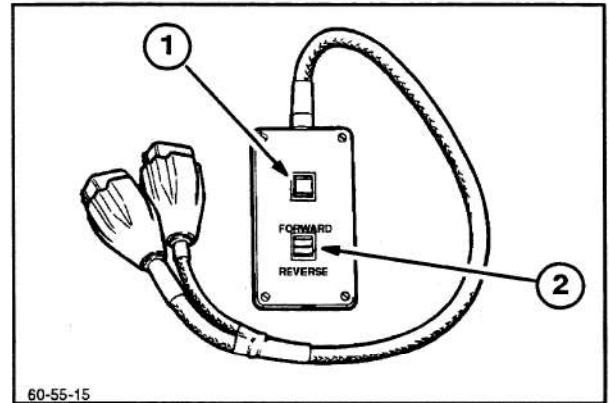
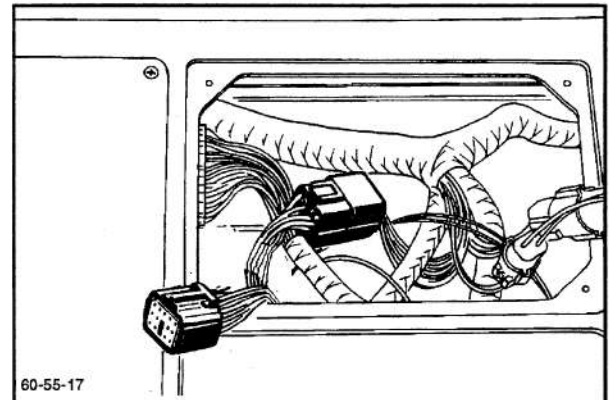
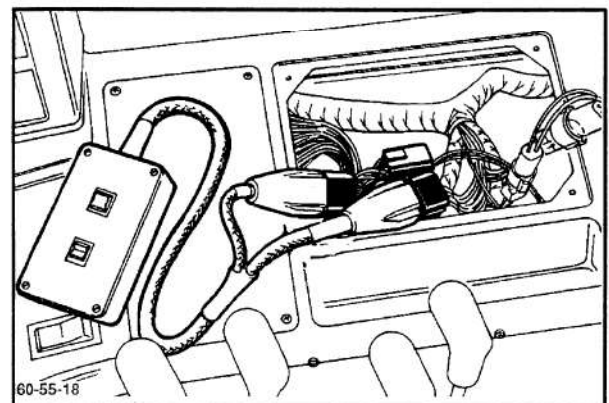

Figure 4-4-20
Figure 4-4-21
Figure 4-4-23
4. Locate and disconnect the cab main harness access connector, Figure 4-4-21, enabling the connection of the limp home harness connector, marked with 'HARNESS', Figure 4-4-20, into the cab main harness of the tractor, Figure 4-4-23.
5. Connect the other connector of the Limp Home harness Figure 4-4-20, marked 'DIAGNOSTIC', to the 'BLACK' diagnostic plug, Figure 4-4-23.
7. Select forward or reverse using the switch, (2) Figure 4-4-20, on the Limp home harness control box.
8. Operate the momentary switch, (1) Figure 4-4-20, of the Limp Home Harness to move the vehicle. If necessary, depress the foot throttle to increase engine speed.